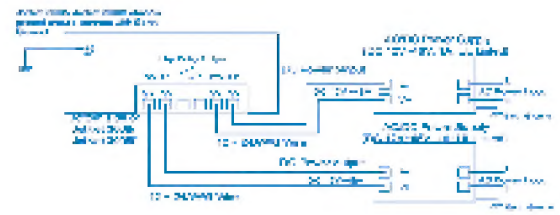

Figure-2
2. Tighten the wire-clamp screws to prevent the DC wires from being loosened. See Figure-2